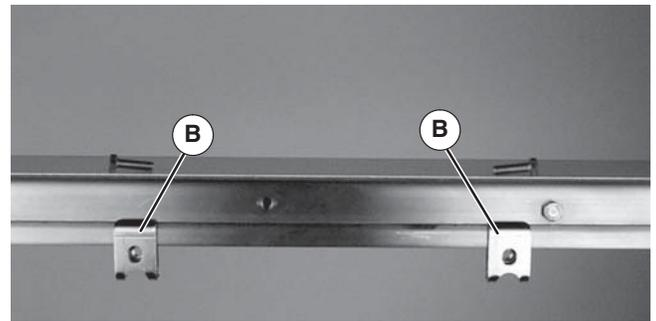

Figure 3
1. Install mounting clips (Figure 3, item B) on conveyor.